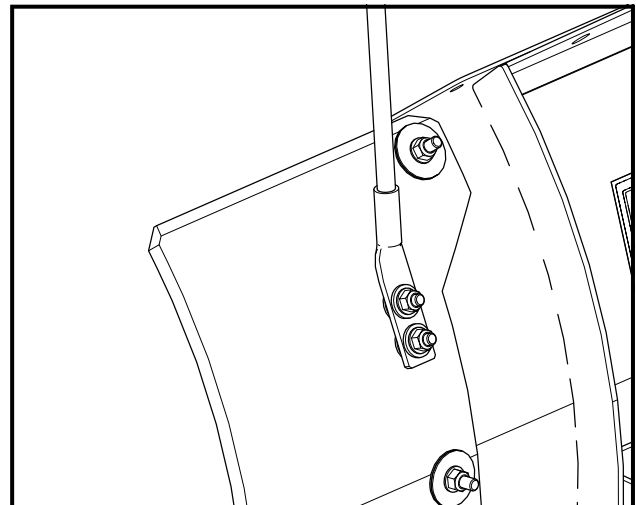

Figure 3 - Side Marker Kit
- If installing a side marker kit along with the extension wings, install the marker on top of the extension wing, on the rear side of the moldboard, per figure 3.